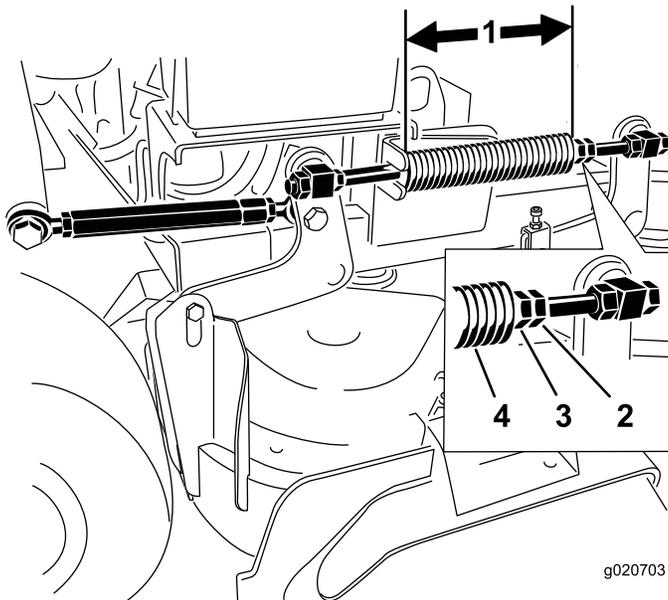

Figure 88
2. Check the length of the compression spring. Nominal length is 28.2 cm (11-1/8 inches) for 36 inch mower decks and 25.7 cm (10-1/8 inches) for 40 inch mower decks (Figure 88).
3. Adjust this distance, by loosening the spring jam nut and turning the nut in front of each spring (Figure 88).
4. Lock the nut into position by tightening the spring jam nut (Figure 88).